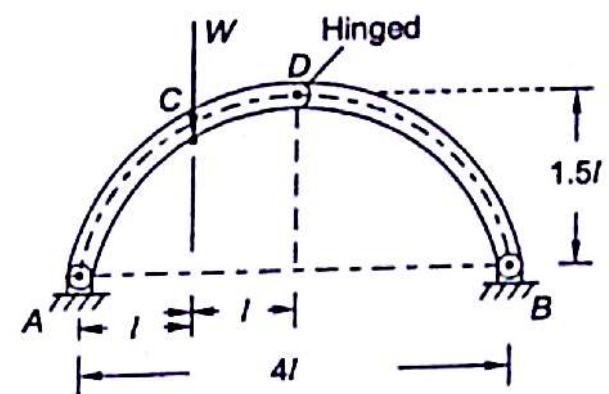

Fig. 3.53
- 3.7 A 3 hinged arch with horizontal length $4l$ and vertical height $1.5l$ is subjected to vertical load W at point D as shown in Fig. 3.53. Determine components of reactions at A and B.